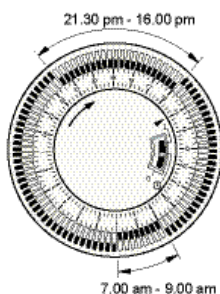
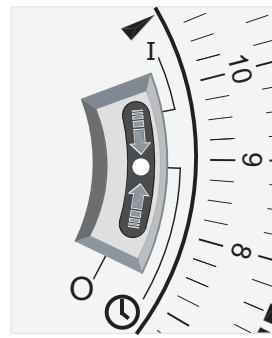

Fig. 8
Fig. 9
1. Using your finger tip or the tip of a pencil, push in as many segments as necessary around the dial, according to the times you don't require heat – see Fig. 7. Each segment pushed in switches the heater OFF for that part of the hour. All other segments will be ON. For example, Fig. 8 shows the timer set to switch the heater ON between 9.00am and 4.00pm and between 9.30pm and 7.00am.
Check that the clock shows the correct time of day. Set the I - - slide switch to (see Fig. 9) - the heater will switch ON and OFF according to the timer settings (see Fig. 8).